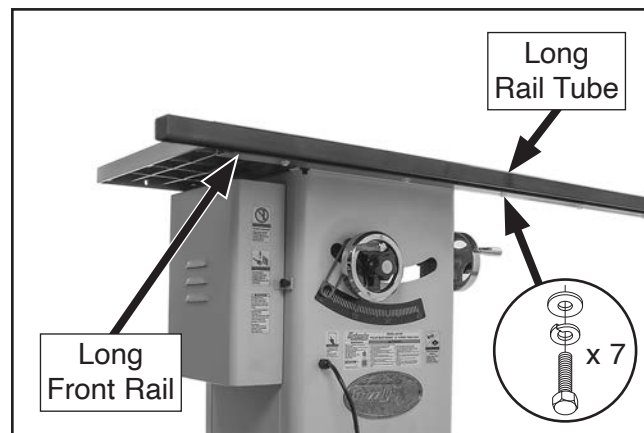

Figure 19. Long rail tube attached to long front rail.
4. Attach long rail tube to long front rail with (7) 1/4"-20 x 5/8" hex bolts, 1/4" lock washers, and 1/4" flat washers (see **Figure 19**). Hand-tighten fasteners for now.